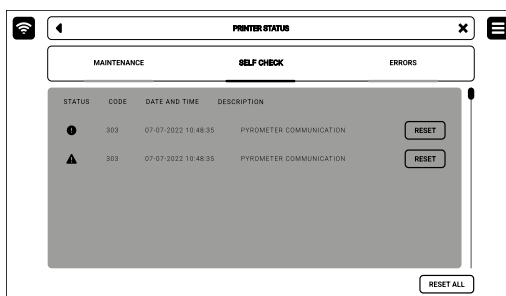

Fig. 13.4 The **ERRORS** screen.
- ERRORS** tab, in which you will see possible errors and messages of damage to printer components (fig. 13.4).